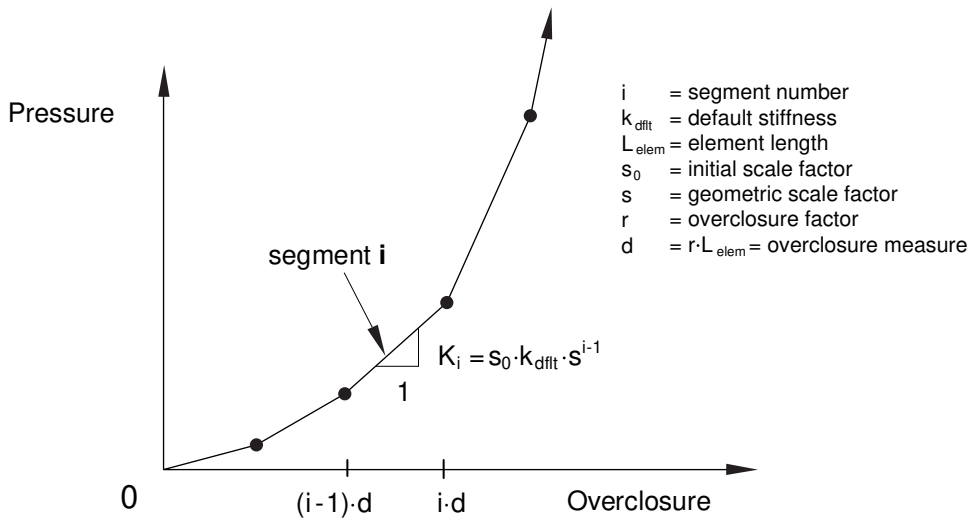

Figure 3: Scale factor pressure-overclosure relationship.
1. Overclosure factor, r (see Figure 3), which defines the overclosure measure (used to delineate the segments of the pressure-overclosure curve) as a percentage of the minimum element size in the contact region. This value must be greater than zero. Leave blank if an overclosure measure (second data item) is specified.
2. Overclosure measure, d (see Figure 3), which defines the overclosure measure (used to delineate the segments of the pressure-overclosure curve) directly. This value must be greater than zero. Leave blank if an overclosure factor (first data item) is specified.
3. Stiffness scale factor, s (see Figure 3), which defines the geometric scaling of the “base” stiffness and must be greater than one.
4. Initial stiffness scale factor, s_0 (see Figure 3), which defines an additional scale factor for the “base” default contact stiffness and must be greater than zero. The default value is one.